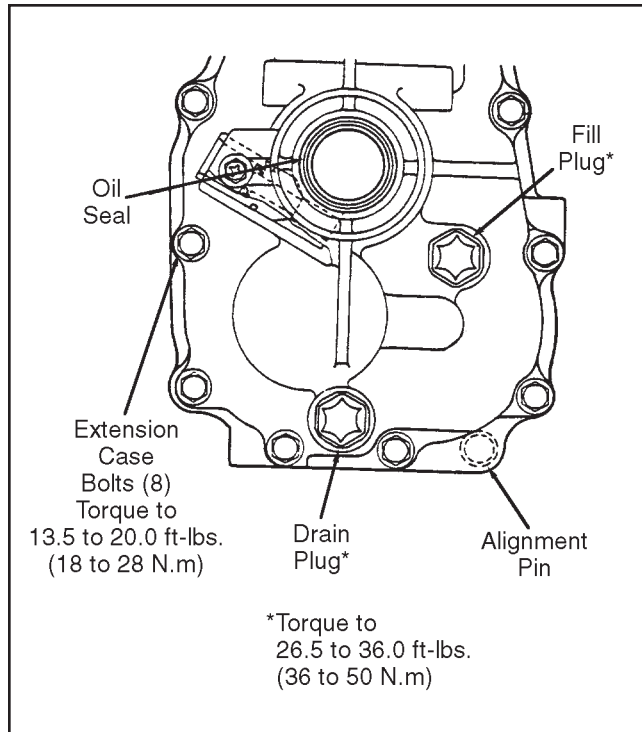

Figure 4H-38. Extension Case Installation
1. Position the assembled gear shift case on the extension case as shown in Figure 4H-39.